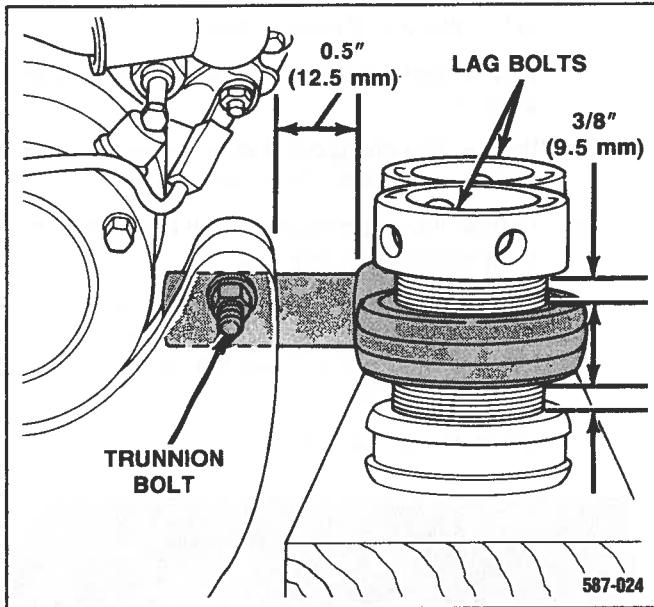

Figure 2-2. Preliminary Engine Mount Adjustment
1. Ensure that all engine mounts (Figure 2-2):
- b. Have the large diameter of the trunnion extended as shown in Figure 2-2.